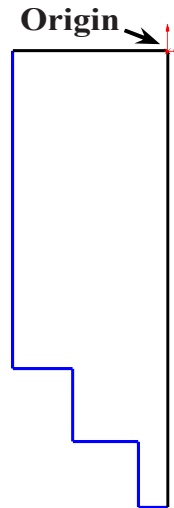

Fig. 2
Step 3. Click **Line**  (L) on the Sketch toolbar.
Step 4. Sketch lines starting from **Origin** , **Fig. 2**.